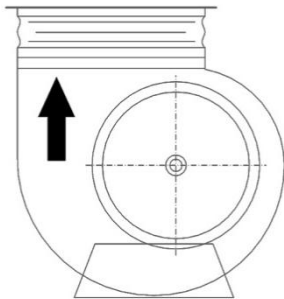

Fig 7 Direction of rotation of the fan(s)
- Check that the direction of rotation of the fan(s) is the one indicated by the arrow on the impeller (see fig. 7)
- The direction of rotation of the ventilating unit, indicated by the arrow on the fan (see fig 7)